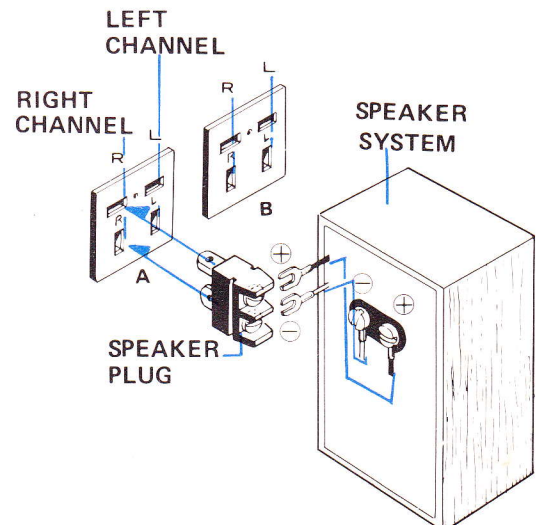

Fig. 4
- As shown in Fig. 4, connect the lead wires of the speaker systems to the supplied speaker plugs. Be sure to observe the correct polarity and to cause no short between ⊕ and ⊖.